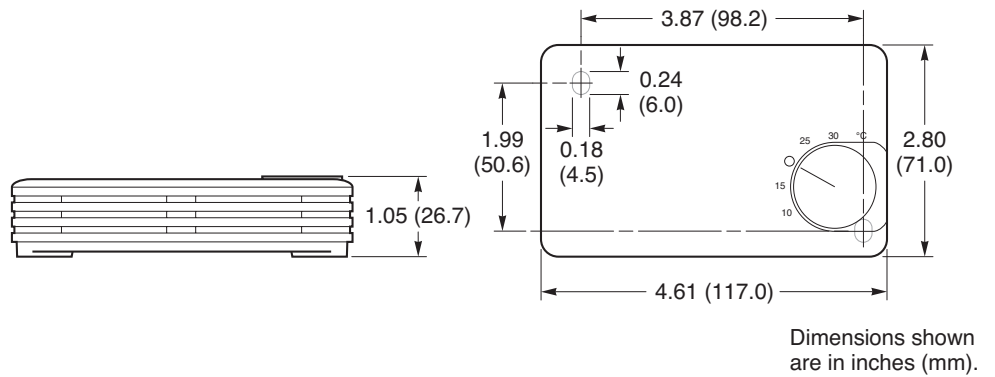

Figure-5 Dimensions of TP-1601, TP-1611, and TP-1616.
**Dimensions:** Refer to Figure-5 .
4. Using the base of the thermostat as a template, mark the locations of the mounting holes on the wall. Refer to dimensions in Figure-5 .